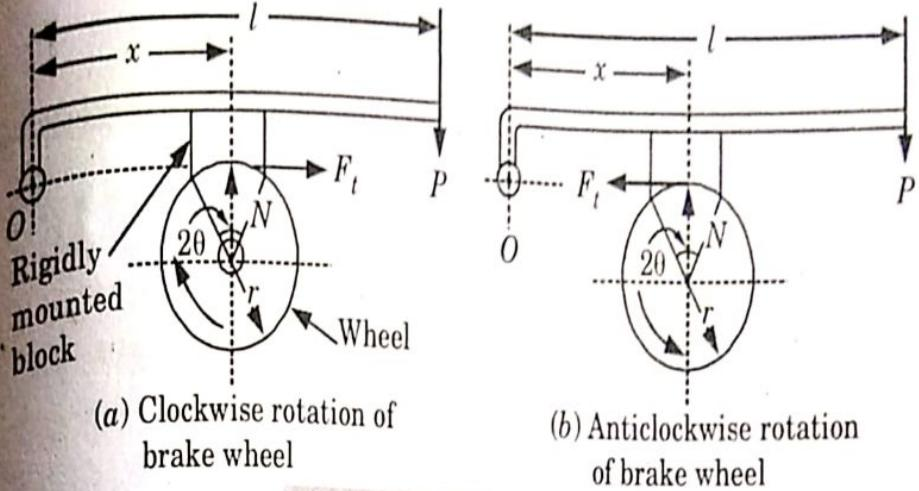

Fig. 5.7.1. Single block brake.
1. It consists of a block or shoe which is pressed against the rim of revolving brake wheel drum (Fig. 5.7.1).